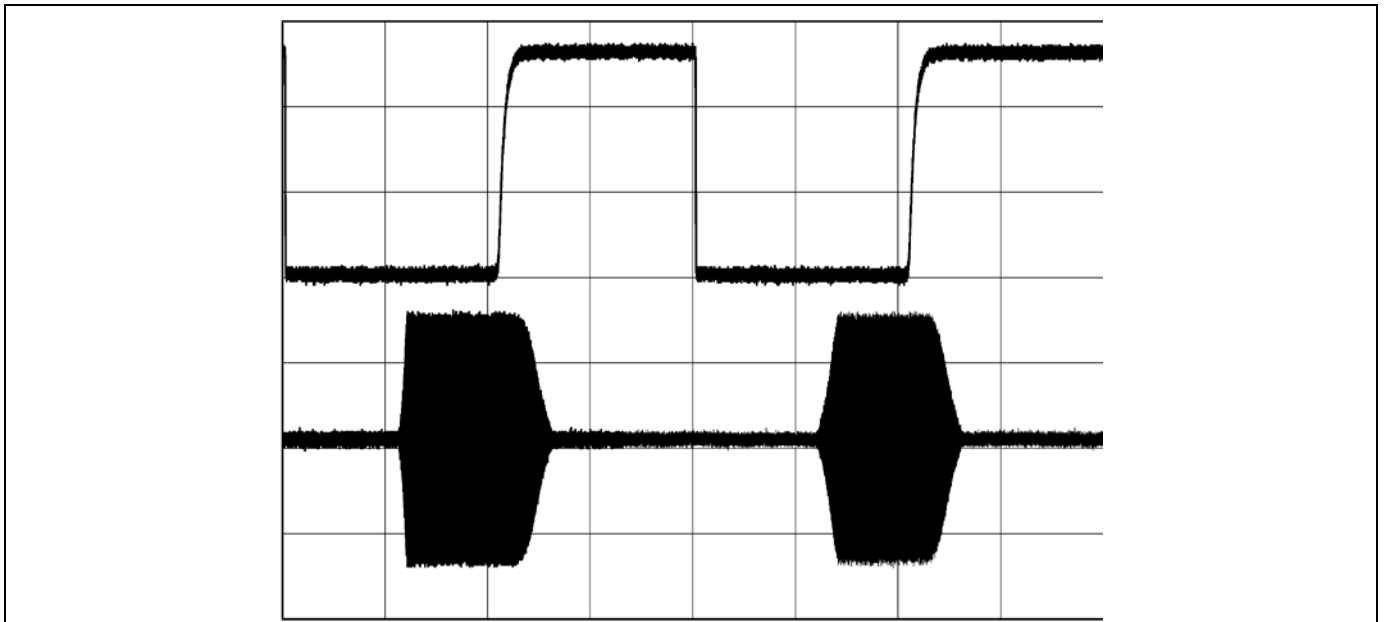

Fig. 4-7A — Oscilloscope Trace of RF Output Envelope
4.7.3.4 Set the keying test generator OUTPUT to ON. Adjust the oscilloscope for a display trace similar to Fig. 4-7A. Note: If the keying generator pulse train shows capacitive shaping, this is due to the configuration of the DUT's keying input circuit and should be considered normal. Be sure that the RF-power level of the dit is approximately the same as the carrier level.